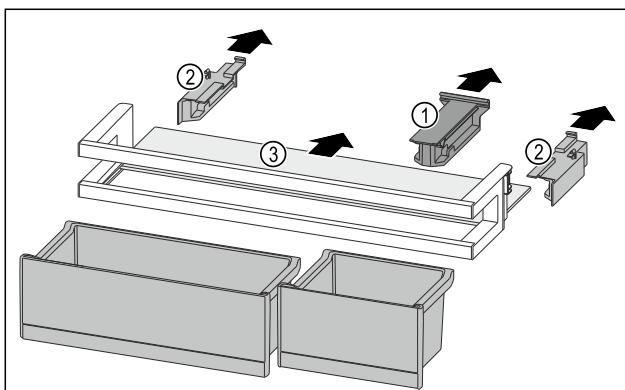

Fig. 172
- ▶ Pull off the holding part *Fig. 172 (1)*.
- ▶ Pull off the side parts Fig. 172 (2).
- ▶ Remove the shelf Fig. 172 (3).